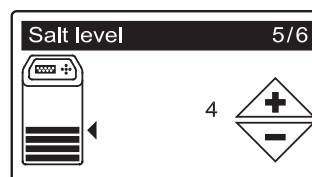

FIG. 12
9. **SALT LEVEL** Press the UP (▲) or DOWN (▼) buttons to set the salt level (See Figure 12). It should match the lowest number visible on the brinewell decal above the salt.